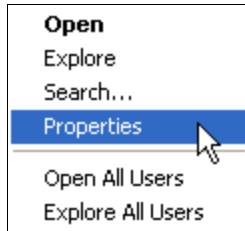

Figure 2.
1. Right click on the **Start** button and select *Properties* tab and single click to open the screen. See Figure 2.